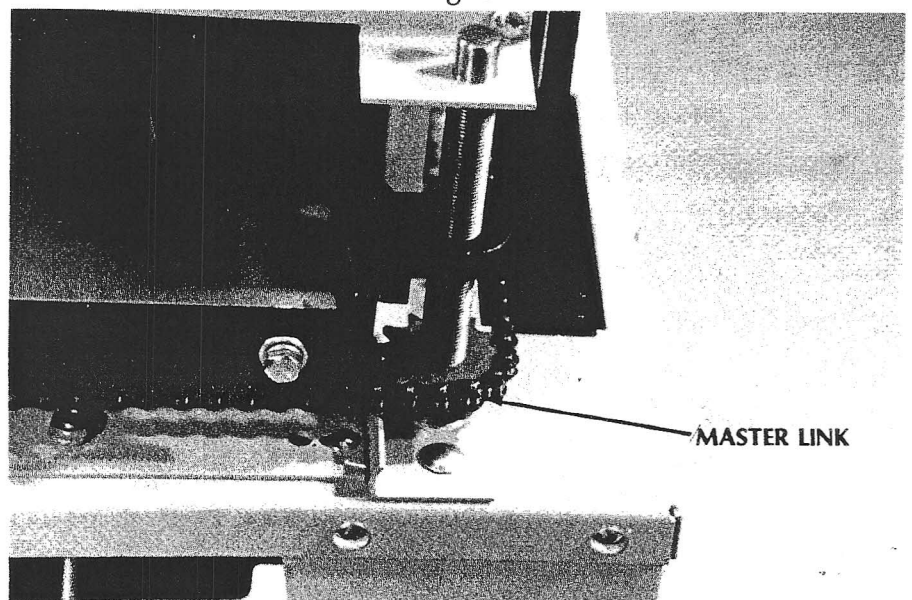

Fig. 10
3. Remove the RB-61 chain connector link and remove chain from sprockets. (fig. 10)